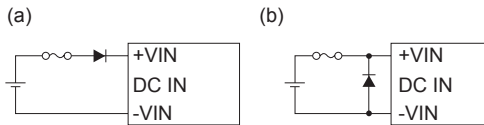

Fig.2.3 Reverse Input Voltage Protection
(5) Reverse Input Voltage Protection
■ Avoid applying reversed-polarity voltage to the power module as it will damage the power module. To protect the power module from reversed polarity voltage, installing an external diode as shown in Fig. 2.3 is recommended.